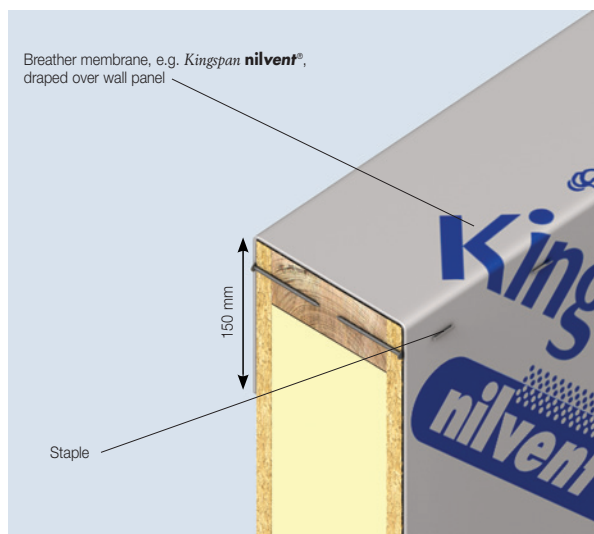

Figure 32 Temporarily Drape Breather Membrane over Wall Panel to Enhance Weather Tightness
*Hint: At the completion of each day's work, or whenever work is interrupted for extended periods of time, a non-tenting breather membrane, e.g. **Kingspan nilvent®**, should be draped temporarily over the top of the **Kingspan TEK®** Building System wall panel to a depth of 150 mm. This enhances the weather tightness of the wall panel. This is illustrated in Figure 32. When returning to work, pull back the breather membrane and overlap onto the subsequent **Kingspan TEK®** Building System panel to be installed above. If the **Kingspan TEK®** Building System wall panel is below an opening, the breather membrane should be trimmed back.*